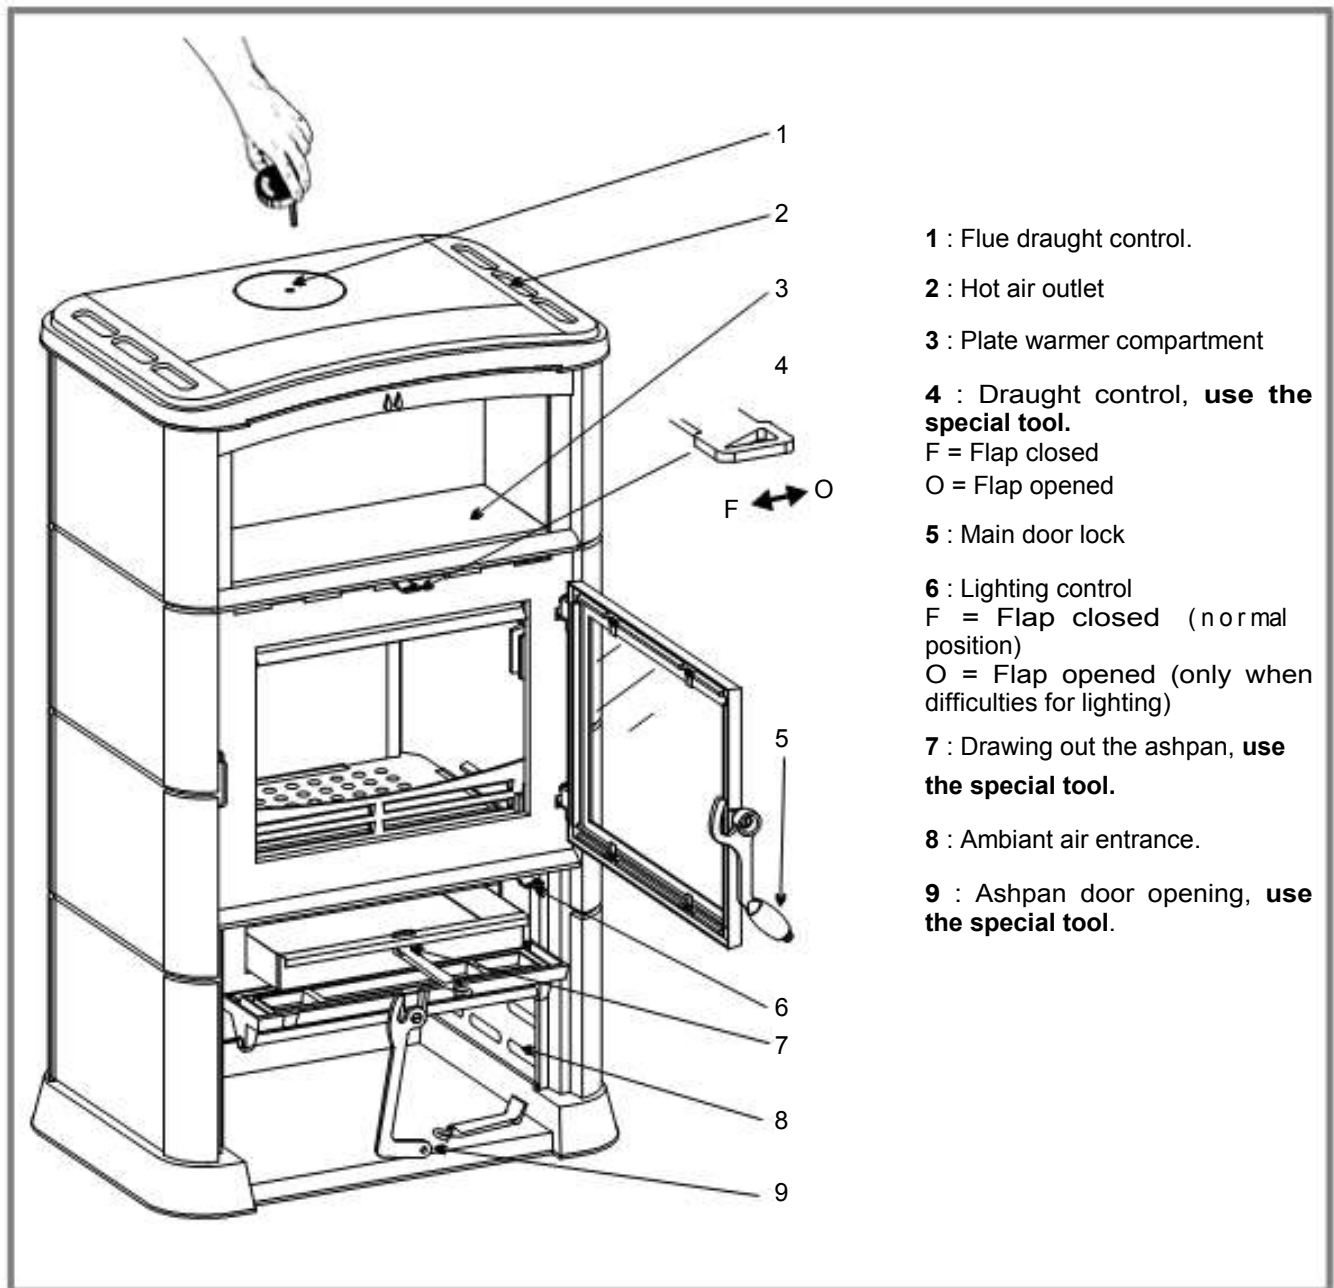

Figure 10 - Operating devices
- Slide the top air control (fig. 10, # 4) to the right.